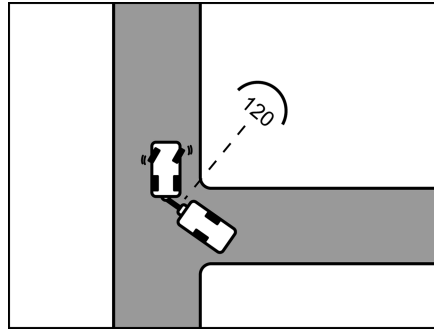

Fig. 12 Approach
- As soon as both vehicles are at an approximate angle of  $120^\circ$  to each other, come to a stop (Fig. 12).